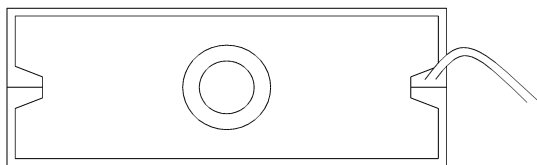
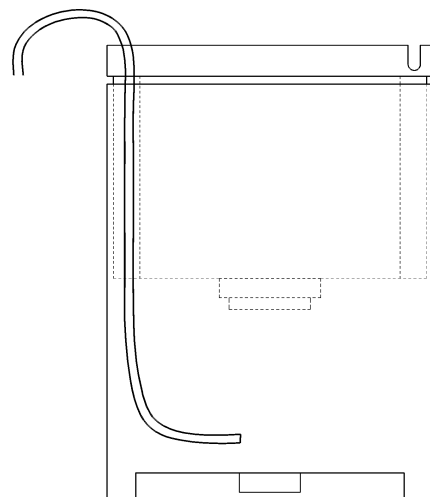

Fig. 7
Fig. 8
- Place the water hose in the relative channel (fig.7) and push it down until it reaches the bottom of the tank (fig.8).